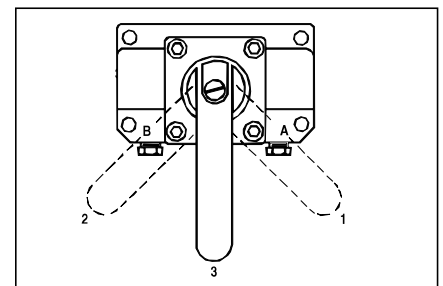

Figure 7
**VM33, VM33L, VM43, VM43L (See Fig. 7)**